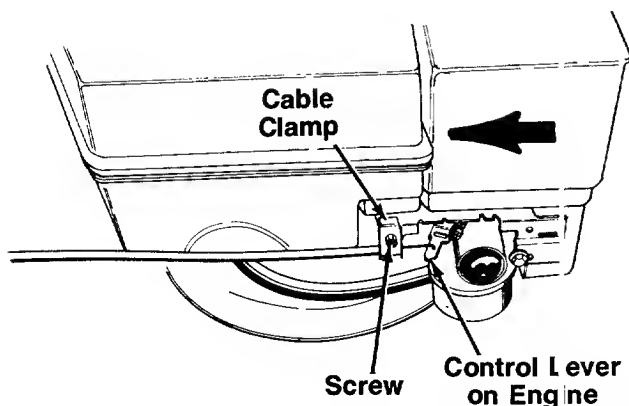

FIGURE 6B.—Model 117R Shown
2. The throttle control cable is attached to the upper handle. Route the throttle control cable under the lower handle, inside the handle mounting bracket and beneath the catcher panel. Hook the "Z" end of the throttle control cable into the control lever on the engine as shown in figure 6B.
3. Loosen (do not remove) the screw on the cable clamp shown in figure 6B. Slip the control casing under the clamp (cable must move freely beneath the clamp).